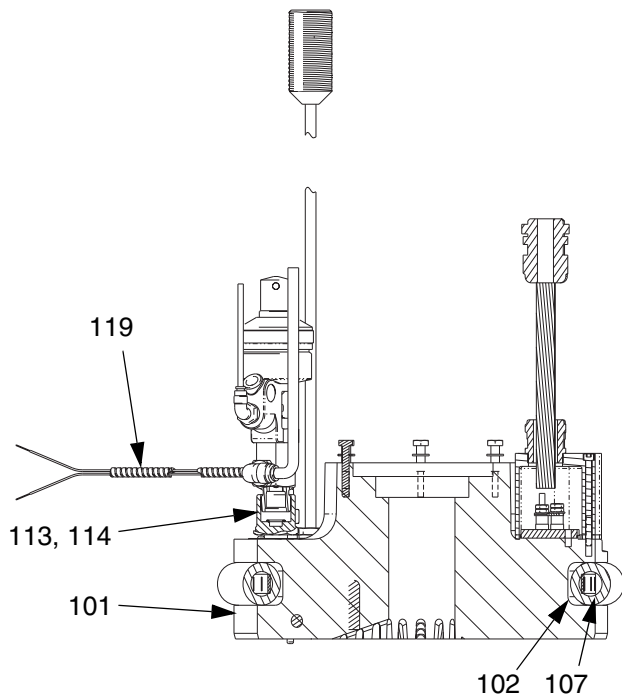

FIG. 10: Part No. 244754 shown
2. Separate the wiper joint, and bend back the strap-ping that covers the clamp (107). FIG. 10.
3. Unscrew the worm gear, then remove the wiper (102).
4. Thread the strapping through the new wiper (102).
5. Insert the strap end through the clamp (107) and tighten.
6. Use a rubber mallet to pound the wiper around the follower plate (101) until the wiper ends are butted tightly together.
7. Apply a lubricant to the wipers (102). Use a lubricant that is compatible with the material to be pumped. Check with the material supplier.
5. Loosen the nut on sensor (119). FIG. 10.
6. Remove the sensor (119).
7. Loosen the cord grip (items 16, 17, 18 on page 30 or 23, 24, 25 on pages 32 and 34).
10. Connect the 2 wires from the new sensor (119) to the sensor terminals.
14. Slide the sensor (119) into the opening in the follower plate (101).